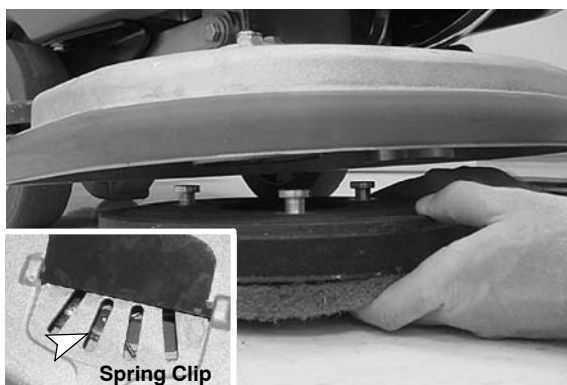

FIG. 9
4. Align the pad driver mounting studs into the motor hub slots and give the pad driver a quick turn to engage spring clip (Figure 9).